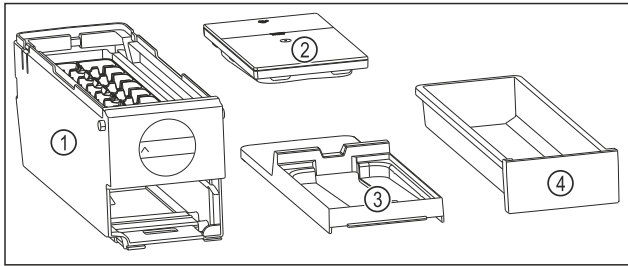

Fig. 190 Components of the EasyTwist-Ice
- ▶ EasyTwist-Ice is dismantled into four parts. (see Fig. 190)
- ▶ Only dismantle the EasyTwist-Ice into the components shown. (see Fig. 190)
- ▶ Clean the EasyTwist-Ice body Fig. 190 (1) as a whole.